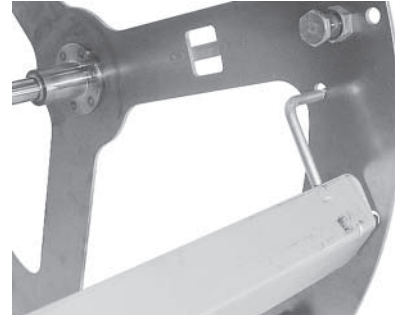

Fig. 25
2. Fit notched end of V-spit into appropriate holes on drive side of rotor (Fig. 25).